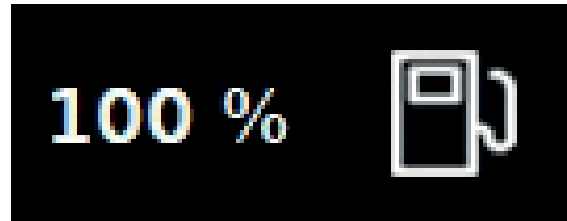

Fig 5.1
3. The engine oil level through the engine stick (see the engine manufacturer manual attached) and the fuel level through the indicator Fig. 5.1